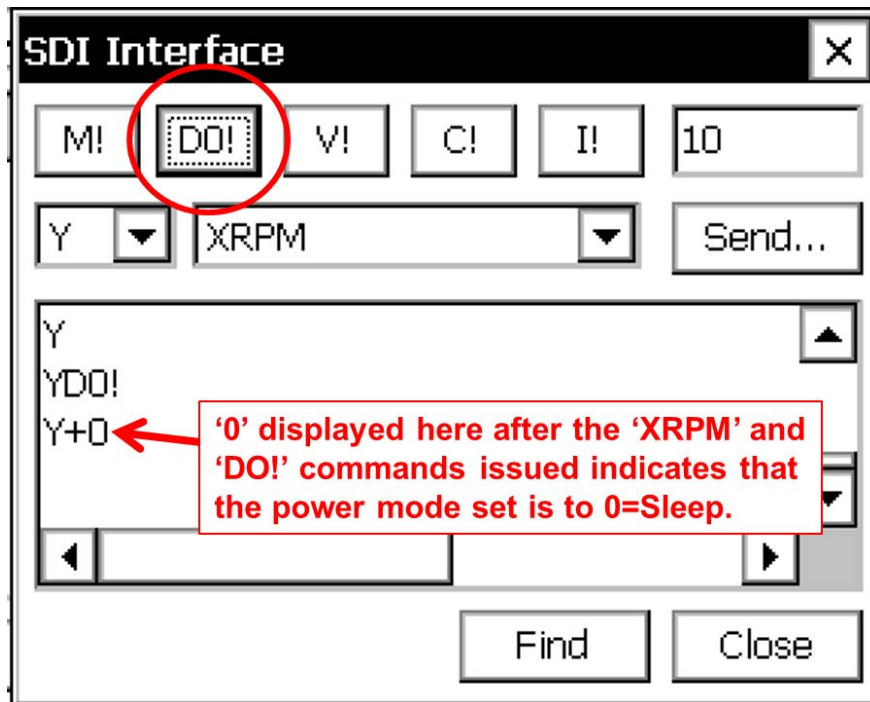
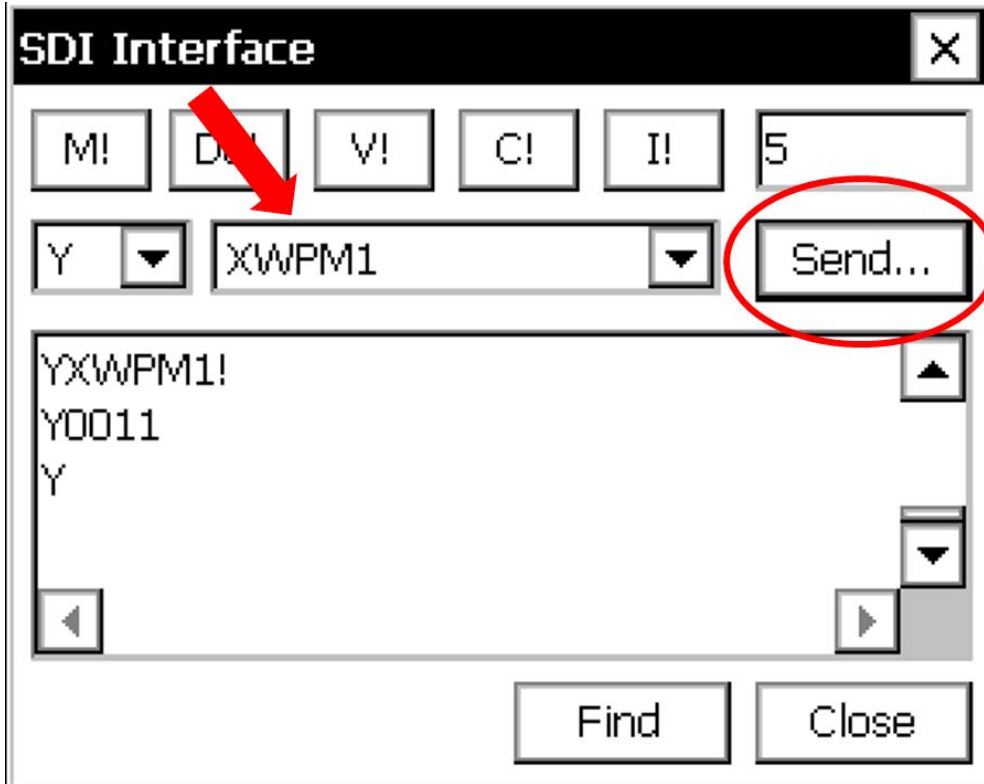

Figure 3-25. Click DO! to display power mode.
Figure 3-26. Type XWPM1 and then click Send.
2. Next, click the '**DO!**' button to display the power mode setting that has been read (fig. 3-25). If '**0**' is displayed, then the power mode is set to '**Sleep**' and it needs to be changed. If '**1**' is displayed, then the sensor's power mode is already configured to '**Fast Measure**' and can be left as is.
3. If the returned sensor power mode setting is '**0**' as shown in fig 3-25, set the power mode to '**1**' by typing the command '**XWPM1**' and then click the '**Send**' button (fig. 3-26).
- In the Xterm’s **Setup Access** screen shown in fig. 3-25, select the **Log** tab under **Setup Access**. The screen in fig. 3-26 will appear.
2. Use the **Select Log:** drop-down menu shown in fig. 3-26 to select the 1-Hz log (**MWWL_1Hz.log**) on Flash Disk.
3. Once the **Flash Disk\ MWWL_1Hz.log** is selected, raw 1 Hz data being recorded by the microwave wave radar sensor should be displayed in the window above the drop-down menu as shown in fig. 3-26. Confirm that reasonable range-to-water surface values are being measured and that values are being updated at a 1-Hz rate in the display window.
4. Close the log by clicking the **Close** button (lower right, fig. 3-26), go back to the **Main** tab, and log out of the DCP. Close Xterm and disconnect the laptop-to-DCP cable.